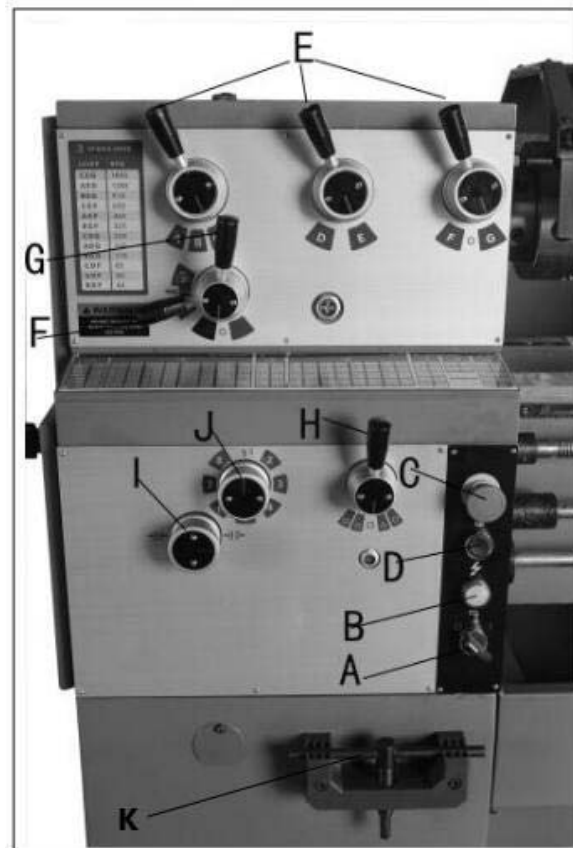

Figure 14
- B. Power Indicator Light** (B, Fig. 14) – illuminated whenever lathe has power.
**Emergency Stop Switch** (C, Fig. 14) – press to stop all machine functions.
- C. Jog Switch** (D, Fig. 14) – Press and release to advance spindle momentarily.
2. **Headstock Gear Change Levers (E, Fig. 14)** – located on front of headstock. Move levers according to speed chart for desired setting.
3. **Leadscrew/Feed Rod Directional Lever (F, Fig. 14)** – located on front of headstock. Moving the lever up causes carriage travel toward the tailstock; moving the lever down causes carriage travel toward the headstock (when chuck is spinning in forward or counterclockwise direction). Do not move lever while machine is running.
4. **Feed/Lead Selector Lever (G, Fig. 14)** – located on the front of the headstock. Used whenever setting up for threading or feeding.